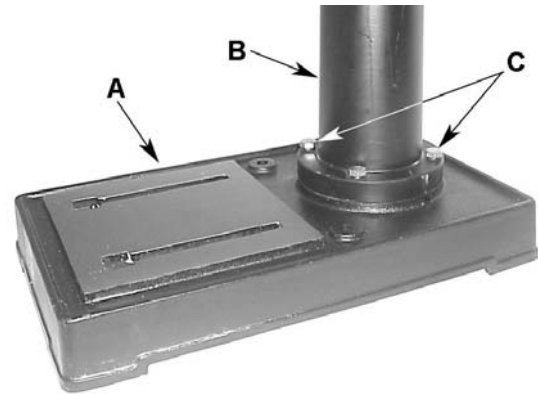

Figure 1
Referring to Figure 1:
2. Rotate head assembly until sides of the *belt cover* (E) are parallel with the sides of the *base* (A, Fig. 1).